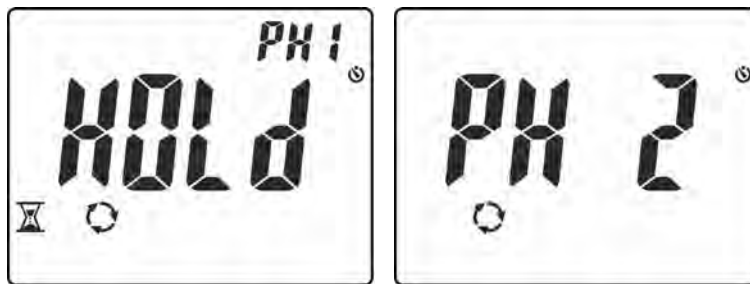

Fig. 14: Detecting phase L1 and waiting for phase L2
- In conditions of correct voltage and frequency, the instrument shows message “**HOLD**”, symbols and “PH1” and the buzzer sounds continuously, waiting for a stable voltage value on phase L1 to be detected (see Fig. 14 – left side).
- Do not remove the lead from phase L1** until message “**PH 2**” appears flashing on the display (see Fig. 14 – right side)